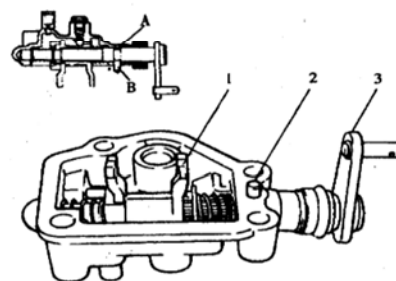

Fig.3.2-3
③ Insert the gear shifting handle axle into the gear shifting cover body until groove "A" on the axle aligns with pin hole "B" on the gear shifting cover body. The lever arm of fork arm and the arm center line on the gear shifting handle axle must be on the same level. (Please refer to Fig.3.2-3)
④ Install gear shifting arm axle and screw it to the specified torque 13-20N · m.